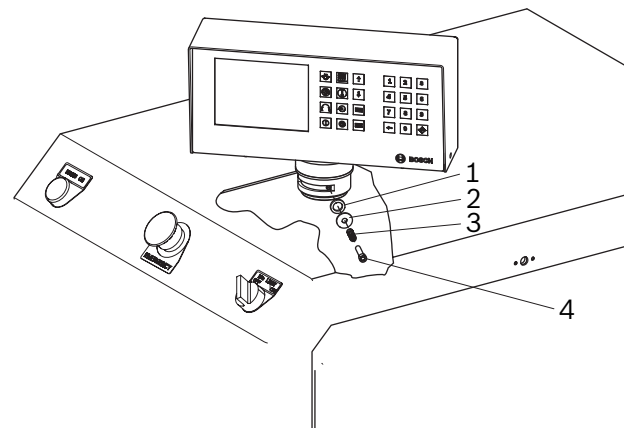

Fig. 13: HMI unit
6. Unfasten the HMI locking screw (Fig. 13, Pos. 4) and remove the HMI locking mechanism.
13. Insert the locking screw (Fig. 13, Pos. 4) into the spring (Fig. 13, Pos. 3). Insert a plain washer (Fig. 13, Pos. 2) and nylon washer (Fig. 13, Pos. 1) at the other end of the screw. Insert the whole assembly into the screw hole of the HMI locking mechanism. Tighten the screw only till a short length of the screw shank is engaged inside the screw hole of the HMI stand.